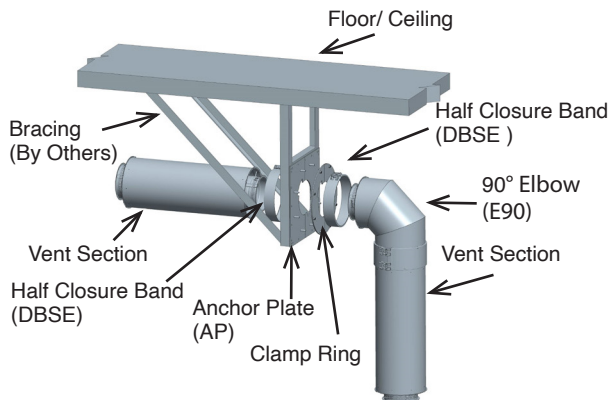
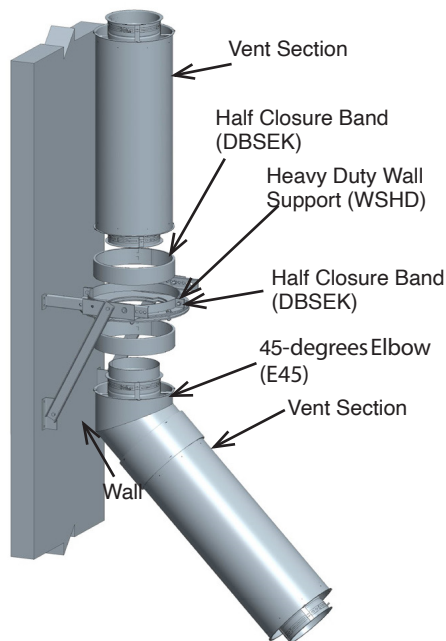

Figure 56- Elbow with an Anchor Plate (AP)
Figure 57- Elbow with an Heavy Duty Wall Support
Elbows are to be supported on one end with either a fixed support: Anchor Plate (AP), or a Heavy Duty Wall Support (WSHD). See Figure 56 for an example with an AP and Figure 57 for an example with a (WSHD).